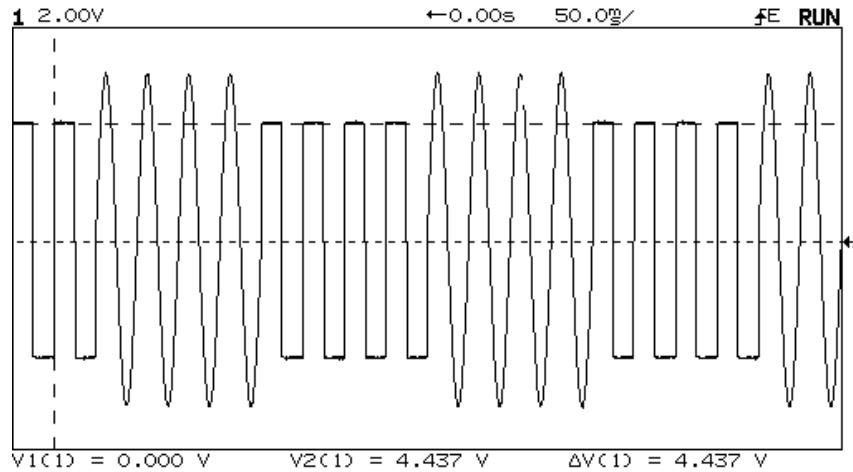

FIG 6: Measuring the peak value of the square wave.
Now let's look at the square wave part of the waveform. Using the voltage cursors on the Agilent 54600B oscilloscope, we see something like FIG 6. As we expected, the delta from V1(1) to V2(1) is 4.437 volts--- very close to the 4.42 volts we measured with the Agilent 34401A